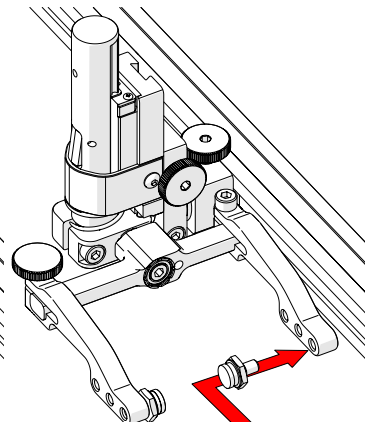

Fig. 34 - Place buttons
3. Position the pivot buttons where necessary. When narrow scanning footprint is required, use the pivot button holes closest to the yoke (Fig. 34).